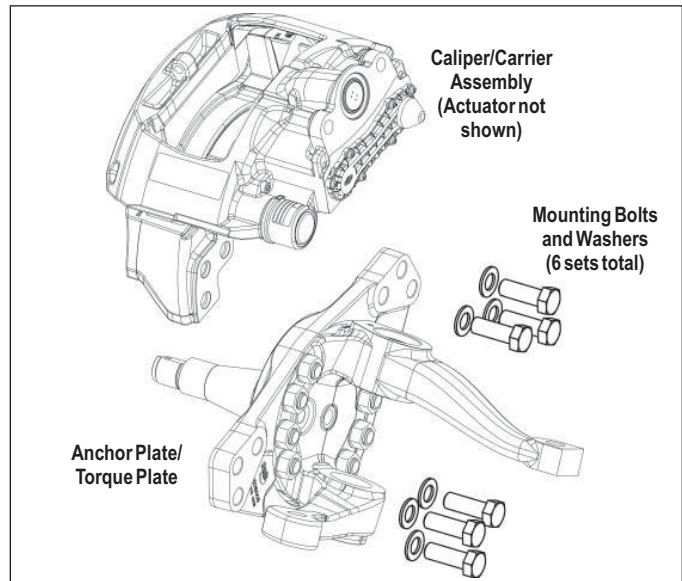

Figure 42 – Axial Mount Caliper/Carrier
- 5.3.6 Disconnect the air hose(s) to the brake chamber. See *Figure 42*. Supporting the air disc brake by necessary means, remove the six bolts attaching the brake to the anchor plate and remove the caliper/carrier assembly from the vehicle.